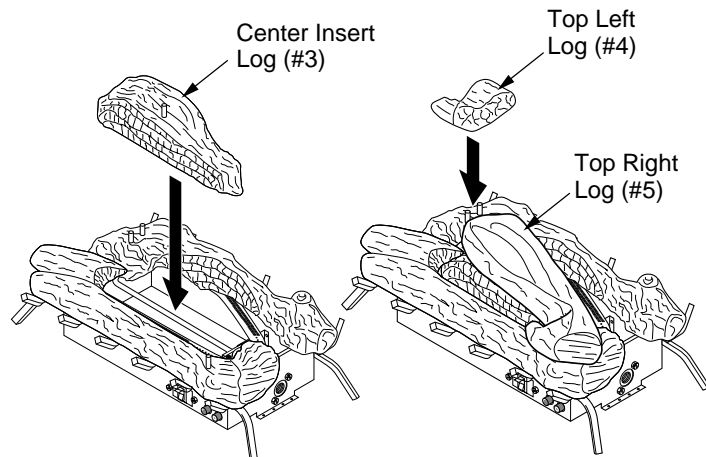

Figure 19 - Installing Center Insert Log (#3) Figure 20 - Installing Top Left (#4) and Top Right (#5) Logs
2. Place center insert log (#3) as illustrated in Figure 19.